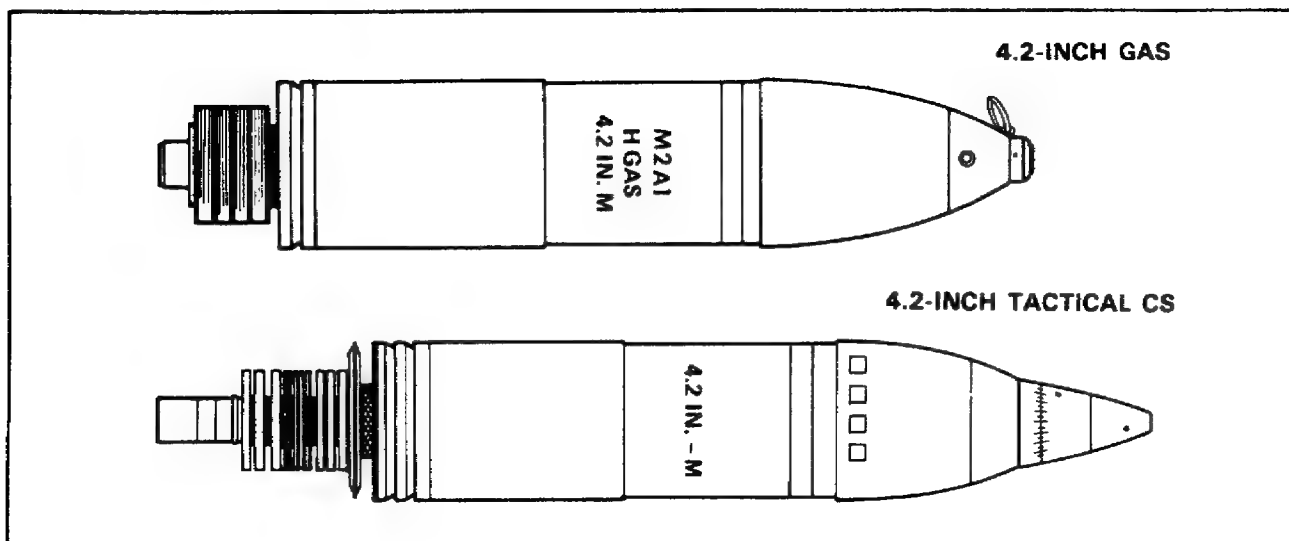

Figure 34. 4.2-Inch Chemical Mortar Cartridges.
**4.2-Inch Chemical Mortar Ammunition.** There are two types of 4.2-inch cartridges designed specifically to disperse a toxic or irritant chemical agent. See Figure 34. The 4.2-inch gas cartridge is filled with a toxic chemical agent, has a high-explosive burster similar to the smoke-white phosphorous cartridge, and has a point-detonating fuze. It functions on impact; the burster detonates, rupturing the projectile body and dispersing the chemical agent. This cartridge has a color code of gray with a dark-green band and dark-green markings. The 4.2-inch tactical CS (CS-TAC) cartridge is filled with four separate canisters containing a flammable CS (tear gas) mixture. It uses a time fuze that functions at a predesignated time after firing. The fuze ignites a black-powder expelling charge that ignites and expels the CS canisters from the base. This cartridge is color-coded gray with a dark-red band and dark-red markings.